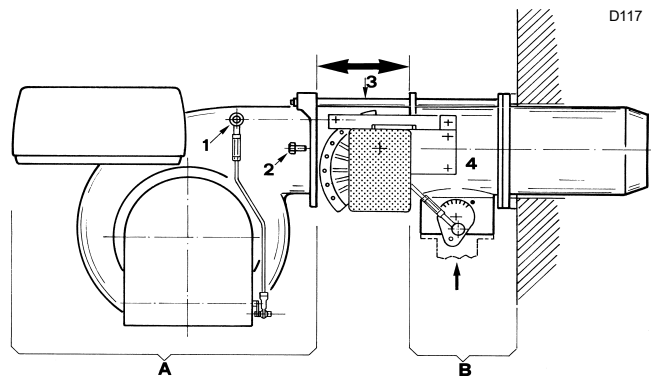

Fig. 14
- disengage the articulated coupling 1)(Fig. 14) of the air damper control lever
- Open the burner by moving the **unit A** backwards on the two slide bars 3). The **unit B** remains fitted to the boiler (Fig. 14).
remove the two screws 6)(Fig. 15) and the elbow 1) from the coupling 4)(Fig. 14), if it has been previously found out that the electrode or the probe need to be calibrated.
- Make the unit A (Fig. 14) slide on the two slide bars 3)